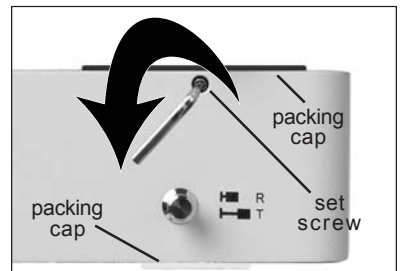

Figure 3
4. Remove the translucent packing cap from the bottom of the reflected illuminator. Loosen the head set screw (figure 3) and remove the black packing cap from the top of the illuminator. These can be set aside with the packaging as they will not be needed.